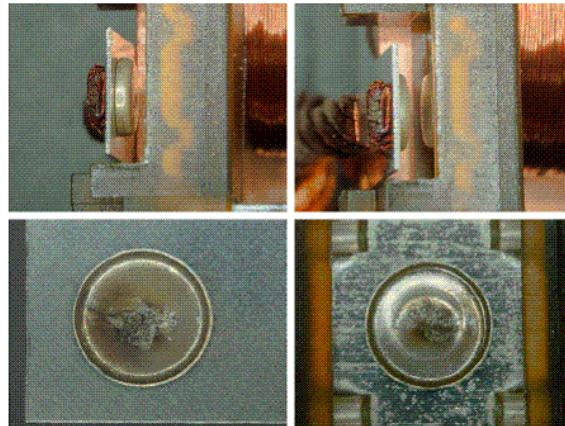

Figure 5. Contacts with minor marks; relay OK.
6. If the contacts resemble those in Figure 5 and the compressor has a working noise similar to a comparable vehicle, replace *only* the opened relay J403 for the self-leveling system.